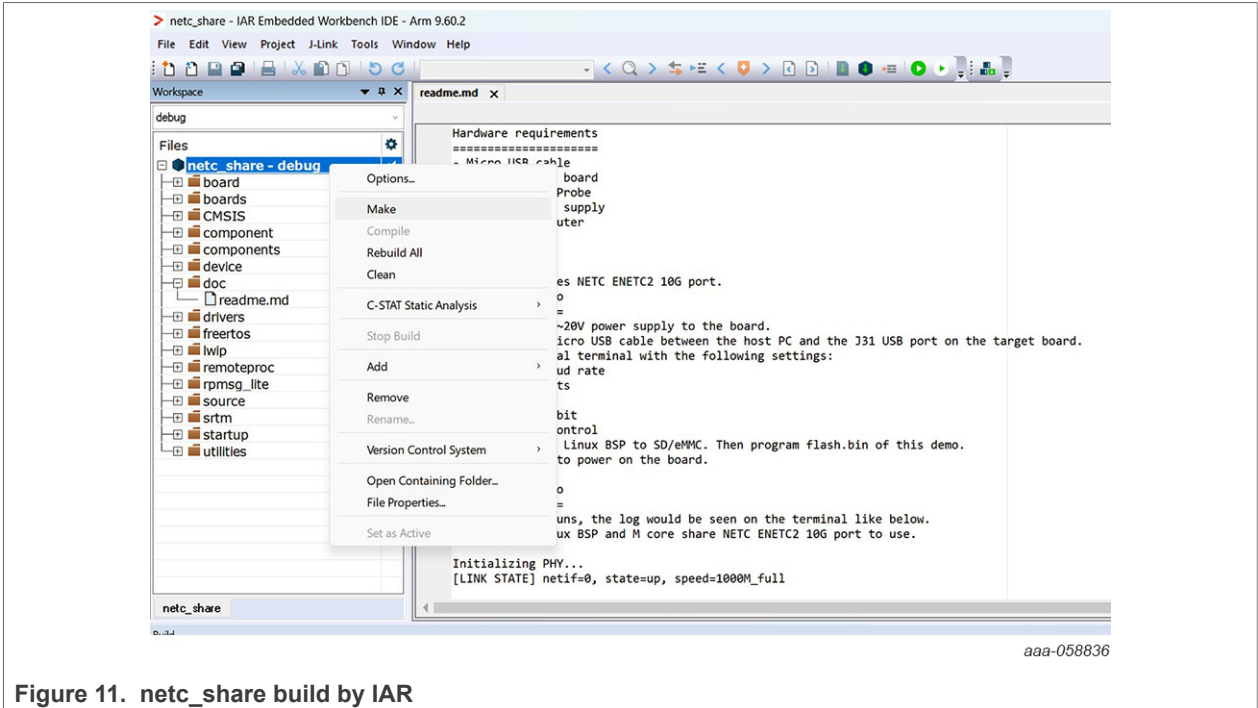

Figure 11. netc_share build by IAR
- To build the demo: Right-click the **netc_share - debug** and select **Make** as shown in Figure 11.